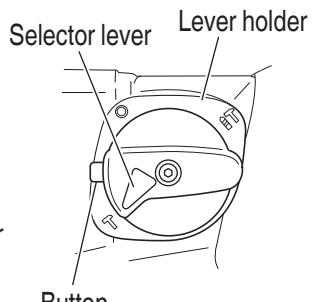

Fig. 6
**(1) Switching to “hammering”**
- Align ▲ of the selector lever and T of the lever holder as illustrated in Fig. 6.